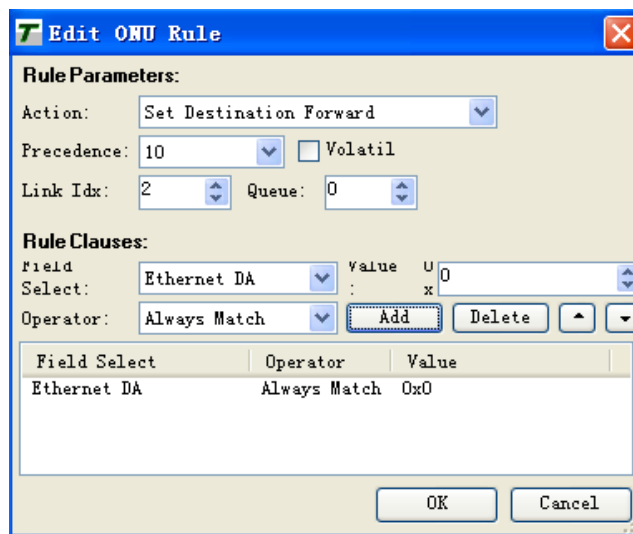

Figure 8-12 Rule Setting
- 5) In the Rules Clauses, set Field Select as Ethernet DA, Operator as Always Match and value as 0 and click Add; then click OK shown in the Figure 8-12;